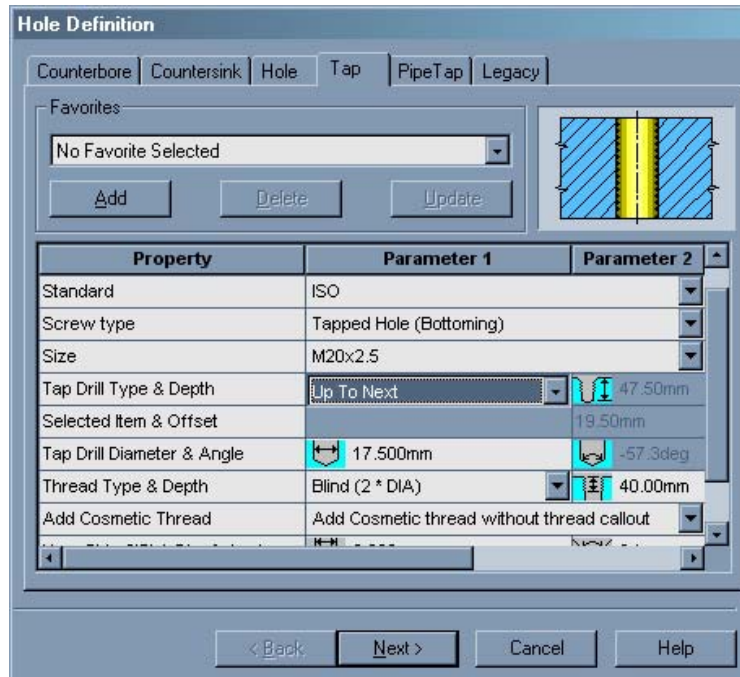

Figure 35 Slot hole definition
47. Set up the Hole Definition Dialog box as shown in Figure 35. Then click **Next**.